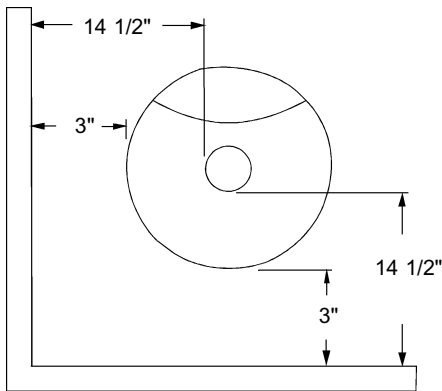

Figure 1
The minimum clearances from the appliance to combustibles are shown on figures 1 and 2. Place the appliance on a flat, solid, continuous surface (i.e. wood, tile, concrete, metal).
1. Position unit to comply with the minimum clearances to combustible materials. Minimum clearances are shown in figures 1 and 2. It is recommended that no overhead cross members in the ceiling or roof be cut. Reposition unit if necessary, being careful not to move closer than the minimum clearances.